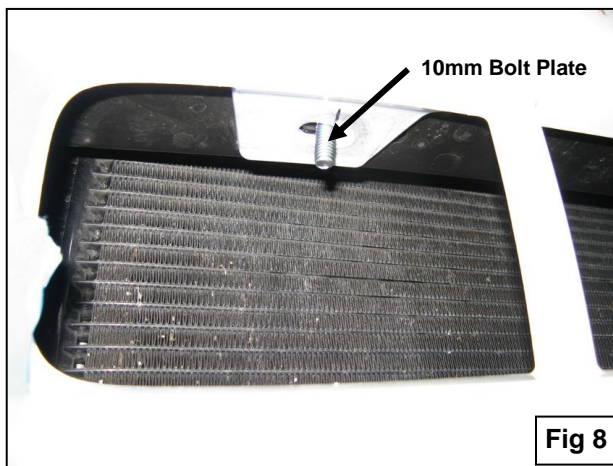

Fig 8
12. Engage (1 ea) 8mm x 25mm Bolt Plate through the top of each factory hole where you previously removed the plastic fasteners (**Figure 8**).